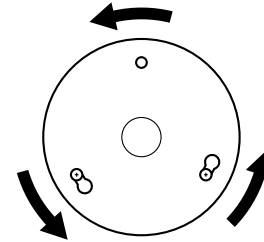

**Figure 8a - Attaching Upper Switch Housing to Switch Housing Mounting Plate**
1. Partially install two #6-32 x 3/8" housing assembly screws into the switch housing mounting plate as shown in Figure 8a.
2. Feed the two optional accessory light kit wires with the attached wire nuts through the center opening of the upper switch housing. See Figure 8a.